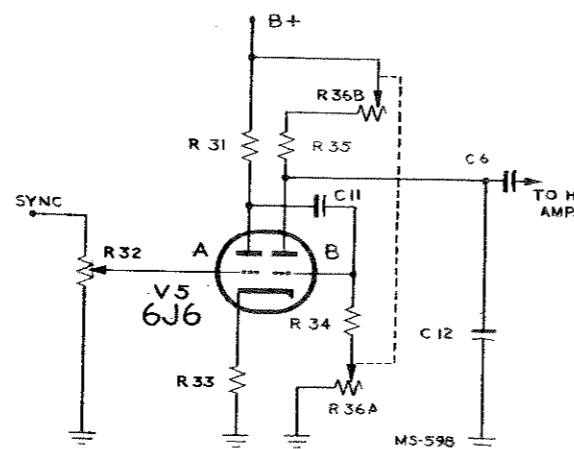

Figure 14—WO-55A Sweep Oscillator
triode (V5) in a Potter Oscillator circuit. As shown by the simplified schematic, Fig. 14, the common cathode of V5 is connected through a cathode-resistor (R33) to ground. The plate of the first section of the tube A is capacity-coupled to the grid of the second section (B). The plate of the second section is connected to ground through a capacitor (C12).